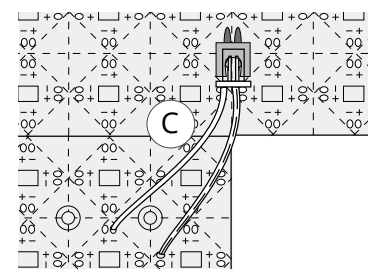

Figure 9
Soldering directly to the copper pads on the sheet provides another method of power input. Figure 9 shows the use of a longer sheet-to-sheet connection wire (C) with one connector cut off as a means to connect power from a connection block on one Light Sheet to another Light Sheet that has none available. *Carefully solder the grey striped wire to a positive (+) copper pad and the solid white wire to a negative (-) copper pad.* See also Soldering Advisory on page 9.